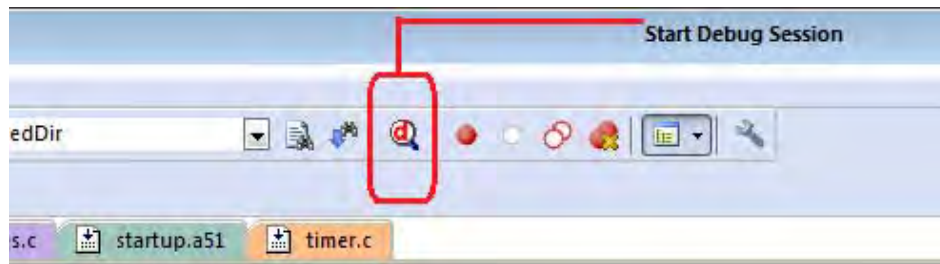

Figure 27. Beginning a Debug Session
13. Start your debugging session by clicking the **Start/Stop Debug Session** icon, as indicated in Figure 27. A default Windows configuration of the debug session is shown in Figure 28.